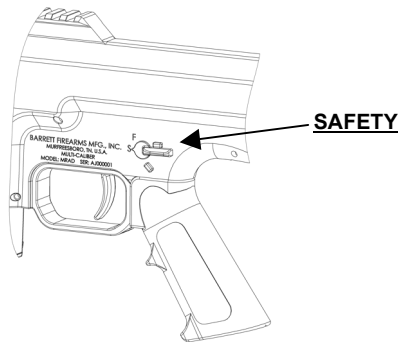

Figure 4.
2. Rotate the safety lever to the "SAFE" (lever horizontal) position. (*Figure 4.*)